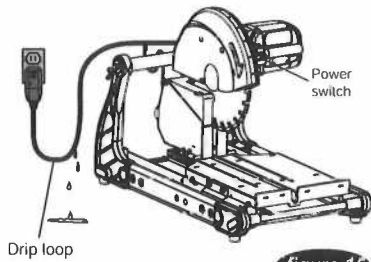

figure 15
**⚠ WARNING:** Water may travel along the power cable and come into contact with the receptacle. The user should arrange a "drip loop" in the cord that is connecting the power tool to the receptacle such that the "drip loop" hangs lower than the receptacle itself (see figure 15).